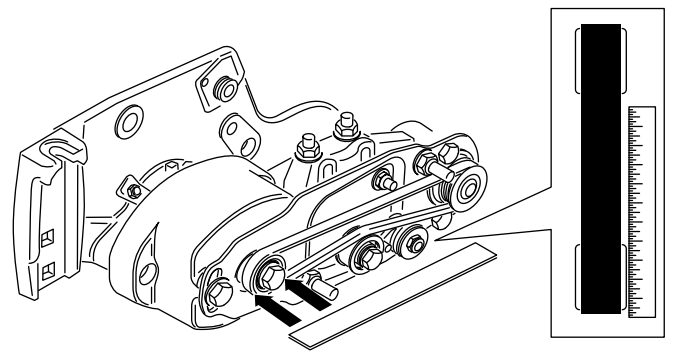

Figure 17
- Lay a straight edge along the outer face of the **drive** pulley (Figure 17). **Do not** lay the straight edge across both the drive and driven pulleys.